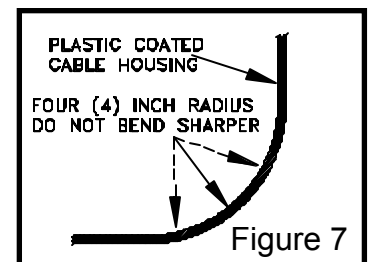

Figure 7
When routing the housing, do not make a turn tighter than a four (4) inch radius (Figure 7). Anchor the housing in the middle of the bend. There are plastic cable ties and extra flag terminals included with the kit. You will also need to anchor the housing as close as possible to the end that sticks out of the grill of the car. After you have the housing installed and the cable inserted, lay under the vehicle and have someone pull on the cable. When pressure is applied to the cable the housing will tend to try to "straighten out" through the bends. If there are several places where this happens, most of the cable pull will be used up straightening the housing rather than pulling on the brake pedal. Note where the housing is trying to straighten and anchor these areas.